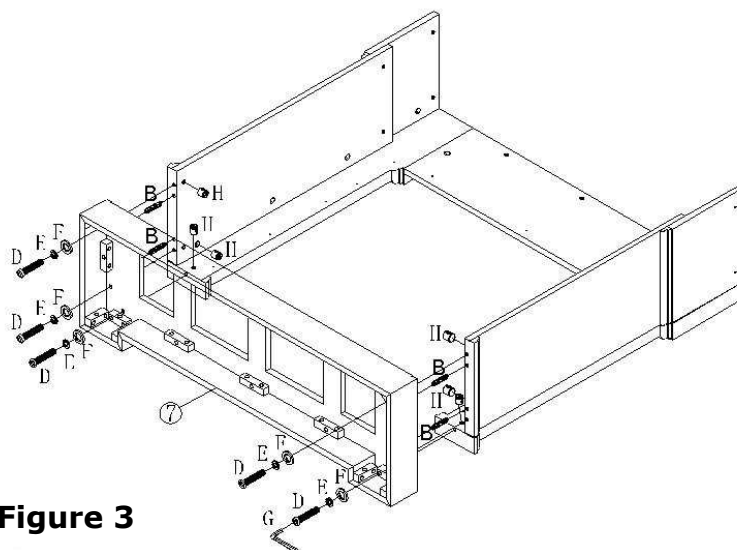
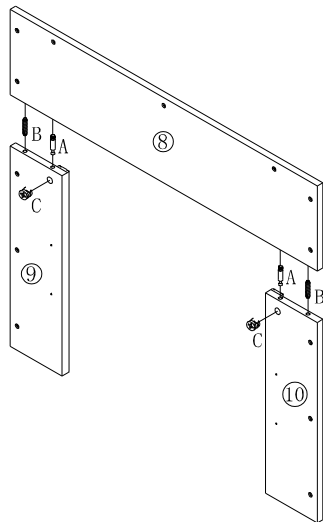

Figure 3
Figure 4
AFTER ASSEMBLED FIGURE 4, INSERT (B) WOOD DOWEL TO THE RELATED HOLES, THEN INSERT THE ASSEMBLED FIGURE 4 INTO THE ASSEMBLED FIGURE 3.